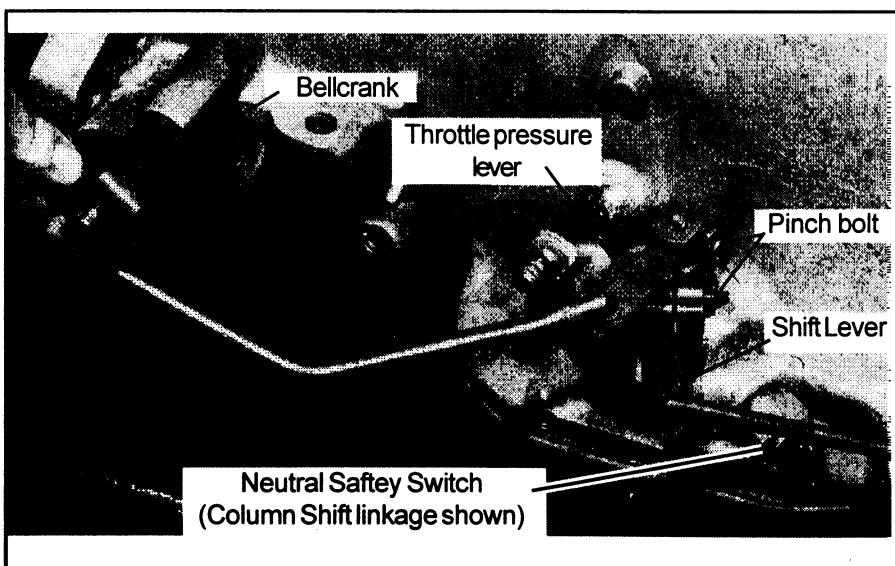

Figure 1
STEP 3. Disconnect throttle pressure linkage. (see fig. 1) Loosen pinch bolt on throttle lever and pry linkage off throttle pressure shaft. Disconnect rod connecting throttle pressure bellcrank to carburetor and al-
Column Shift Models ('66 and later): Loosen pinch bolt on shift lever and pry linkage off shift lever shaft (see fig. 1). Allow linkage to hang free.
STEP 7. Disconnect neutral safety wiring (see fig. 1). Pull wiring connector off neutral safety switch and let it hang free.